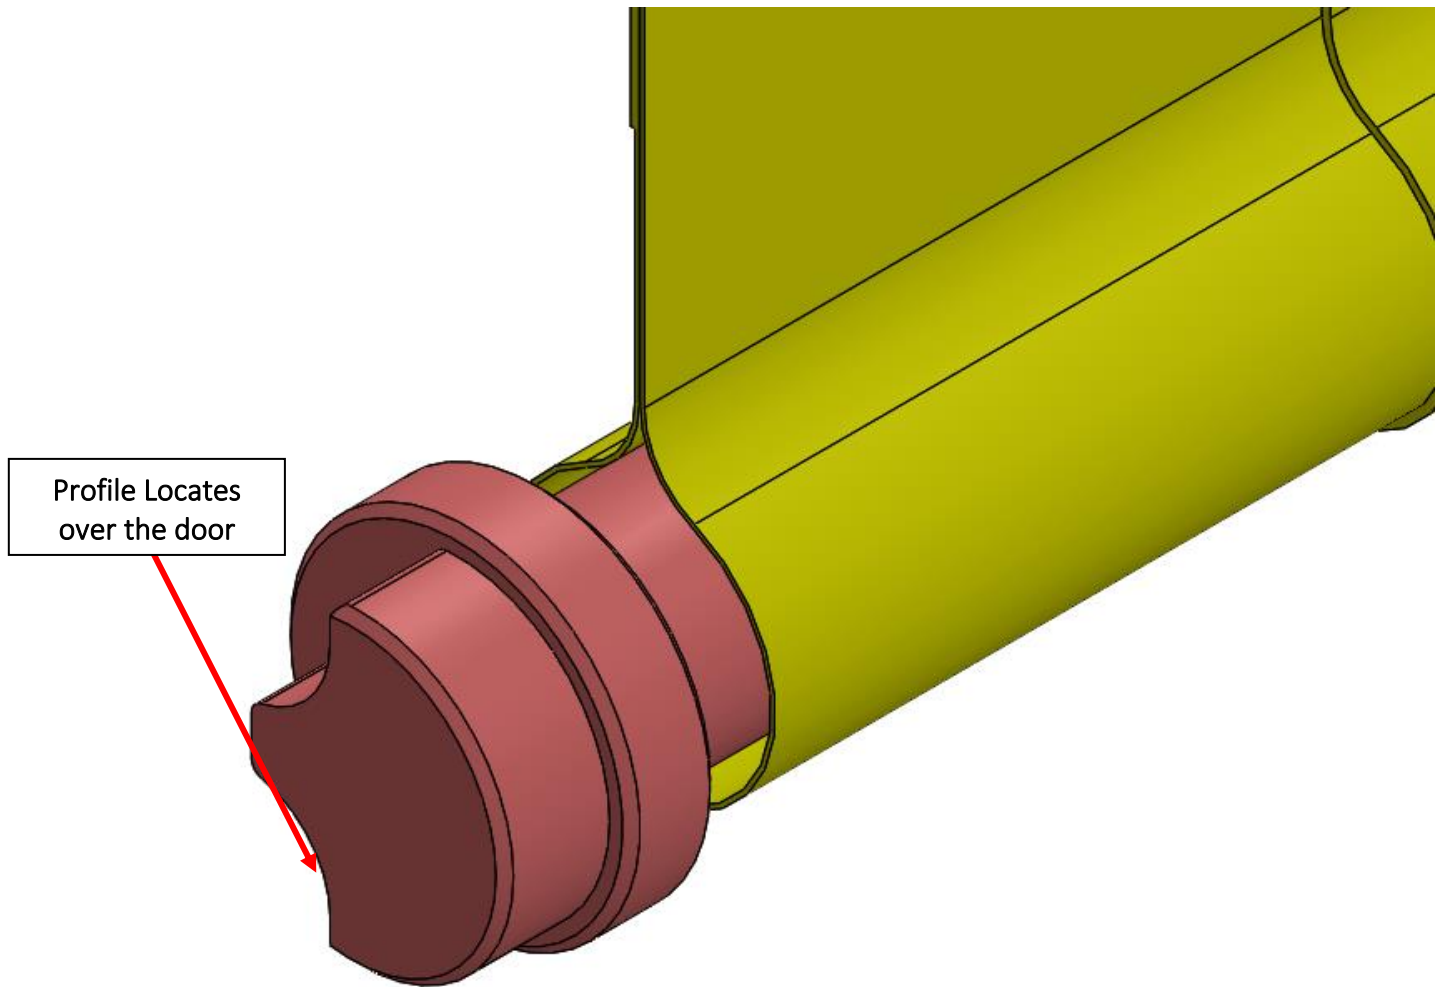

Figure 14 Fixed Bottom Locator.
- 4.1.17 Locate the bottom fixed locator into the bottom door bracket, shown in figure 14.